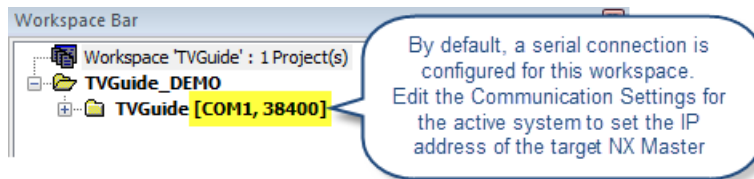

FIG. 154 NetLinx Studio 4 Workspace Bar - TV Guide demo (default communication settings)
- a. Select **Settings > Active System Communication Settings** to open the *Communication Settings* dialog. Use the options in this dialog to establish a connection to the target NX Master. Note that by default, the workspace is configured to use Serial communication (FIG. 154):